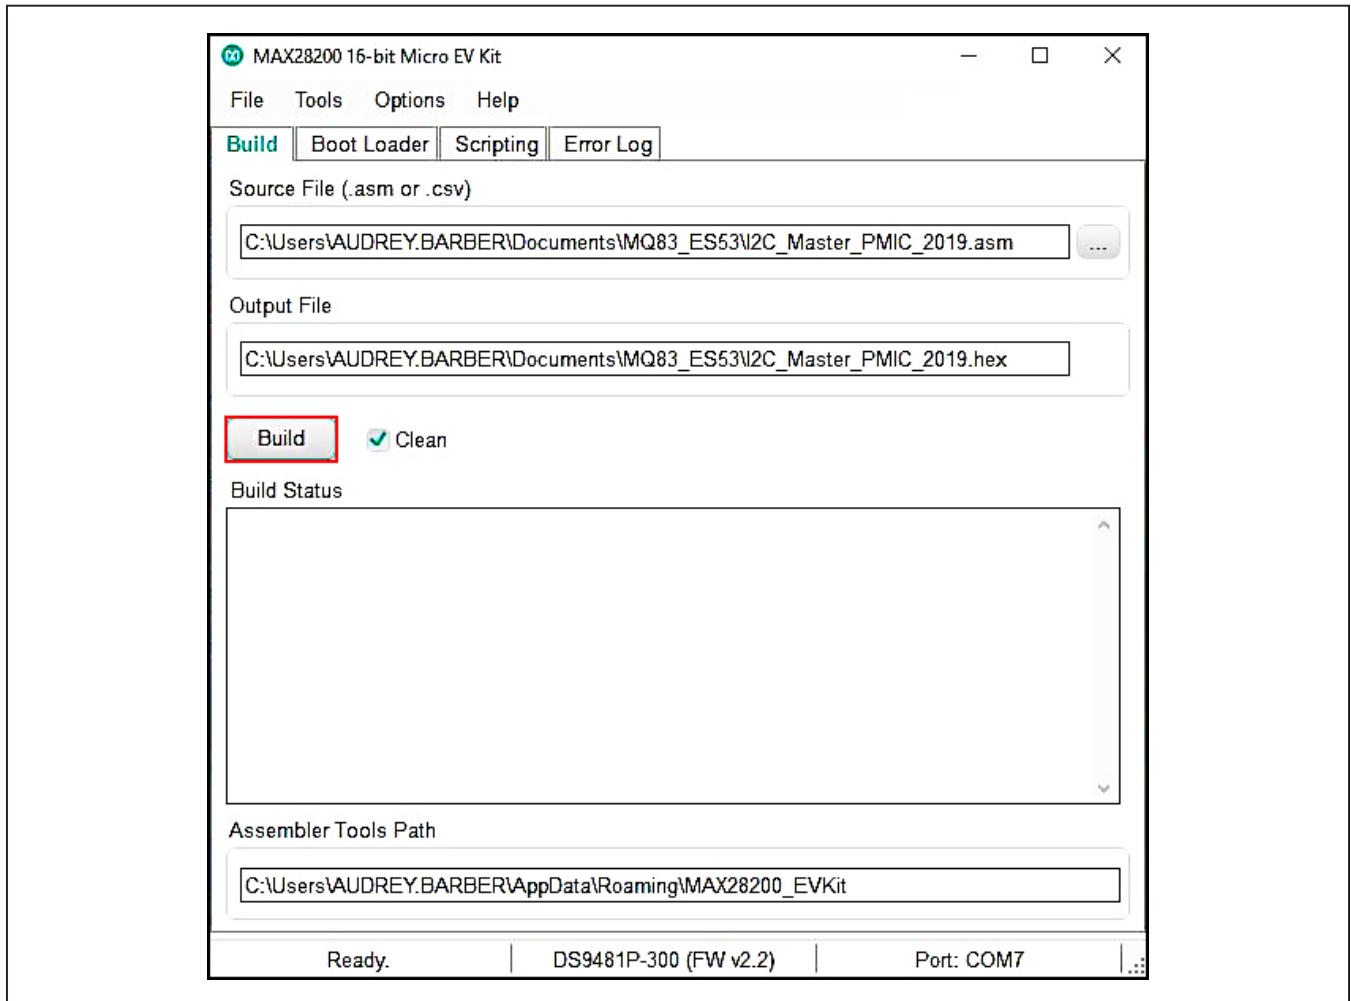

Figure 13. Build the hex file from the original assembly file.
- 3) Once the file is selected, click the **Build** button to build the assembly file (Figure 13).